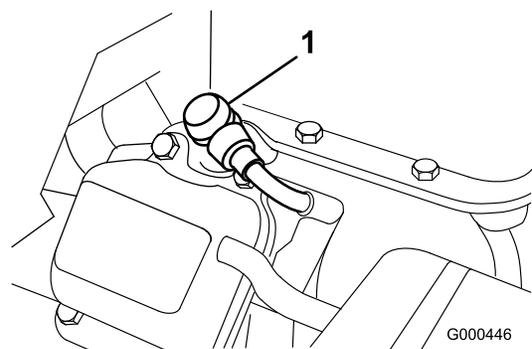

Figure 30
1. Pull molded wire off spark plug (Figure 30).